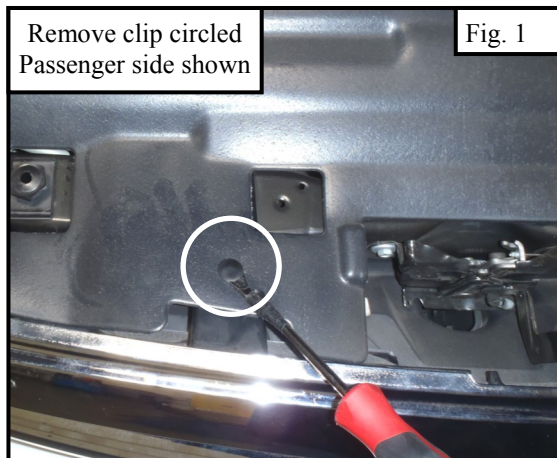

Fig. 1
2. Start by opening the hood and locating the clips retaining the radiator cover. Remove these clips with an appropriate tool. Refer to Figure 1.